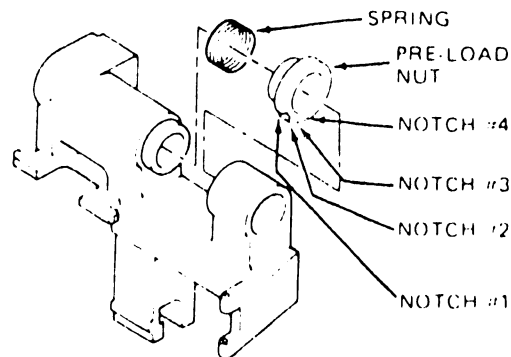

Figure 12 Stepper Carriage Assembly Installation
- i. When installing the carriage, set the pre-load nut in the #3 notch (Refer to Figure 12).